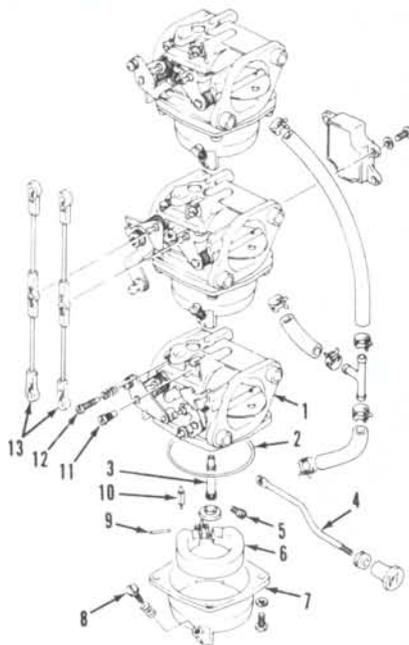

Fig. SZ11-35—Exploded view of Mikuni B26-20 carburetors used.
CARBURETOR. Three Mikuni B26-20 carburetors are used. Refer to Fig. SZ11-35 for exploded view. Initial setting of pilot air screw (12) is 1½ to 2 turns out from a lightly seated position. Final adjustment should be made with engine at normal operating temperature and running in forward gear. Adjust idle speed with idle speed switch located on outside of lower cover so engine idles at approximately 650-700 rpm. Adjust pilot air screw so engine idles smoothly and will accelerate cleanly without hesitation. Readjust idle speed to 650-700 rpm as necessary.